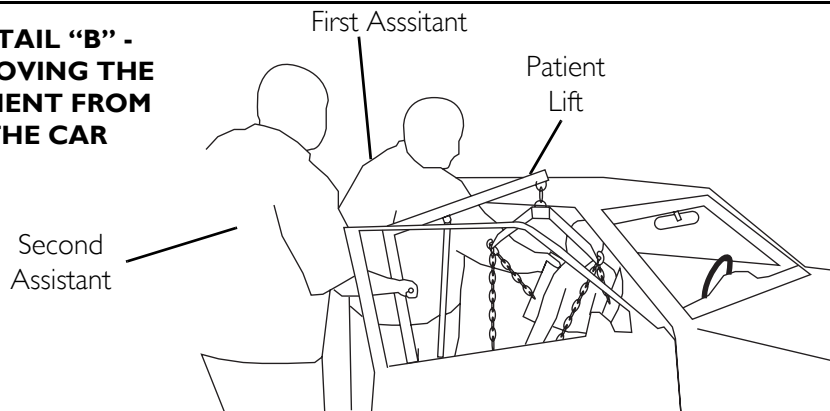

FIGURE 10.3 Transferring from a Car to a Wheelchair
NOTE: For this procedure, refer to FIGURE 10.3 on page 40.
2. Attach the sling to the swivel bar (Detail "A" of FIGURE 10.3).
6. The second assistant should pull the patient lift away from the car until the patient is completely clear of the door frame (Detail "B" of FIGURE 10.3).